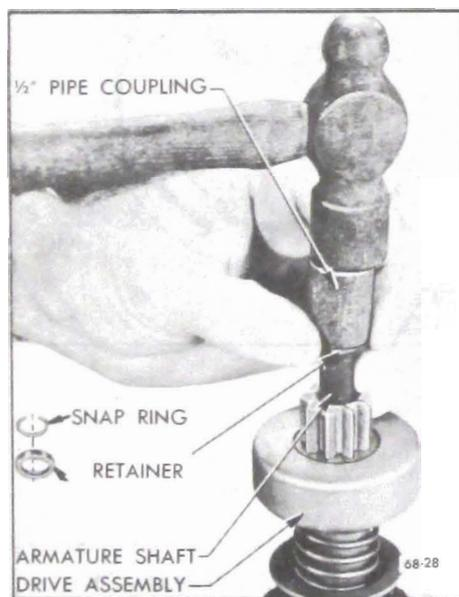

Figure 68-22--Removing
7. To remove drive assembly from armature, place a metal cylinder of proper size (1/2" pipe coupling will do) over end of shaft to bear against the pinion stop retainer. Tap retainer toward armature to uncover snap ring. See Figure 68-22. Remove snap ring from groove in shaft, then slide retainer and pinion drive assembly from shaft.